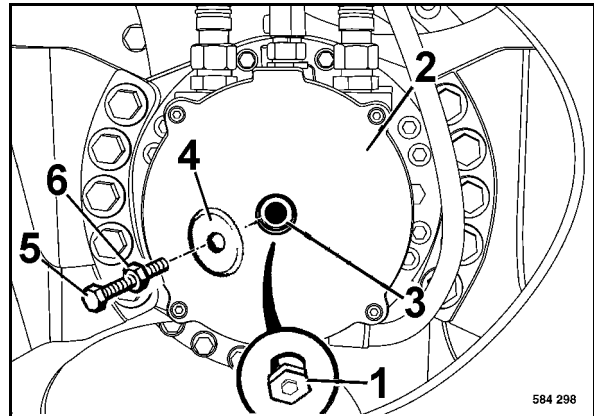

Fig. 110
- Unscrew plug (1) (Fig. 110) to release the brake in the drum drive motor.
- Place clamping disc (4) across the brake housing (2) and turn the screw (5) into the tapped bore (3), until it bottoms.
- Turn the nut (6) down and tighten it for approx. one turn. The drum must rotate freely.